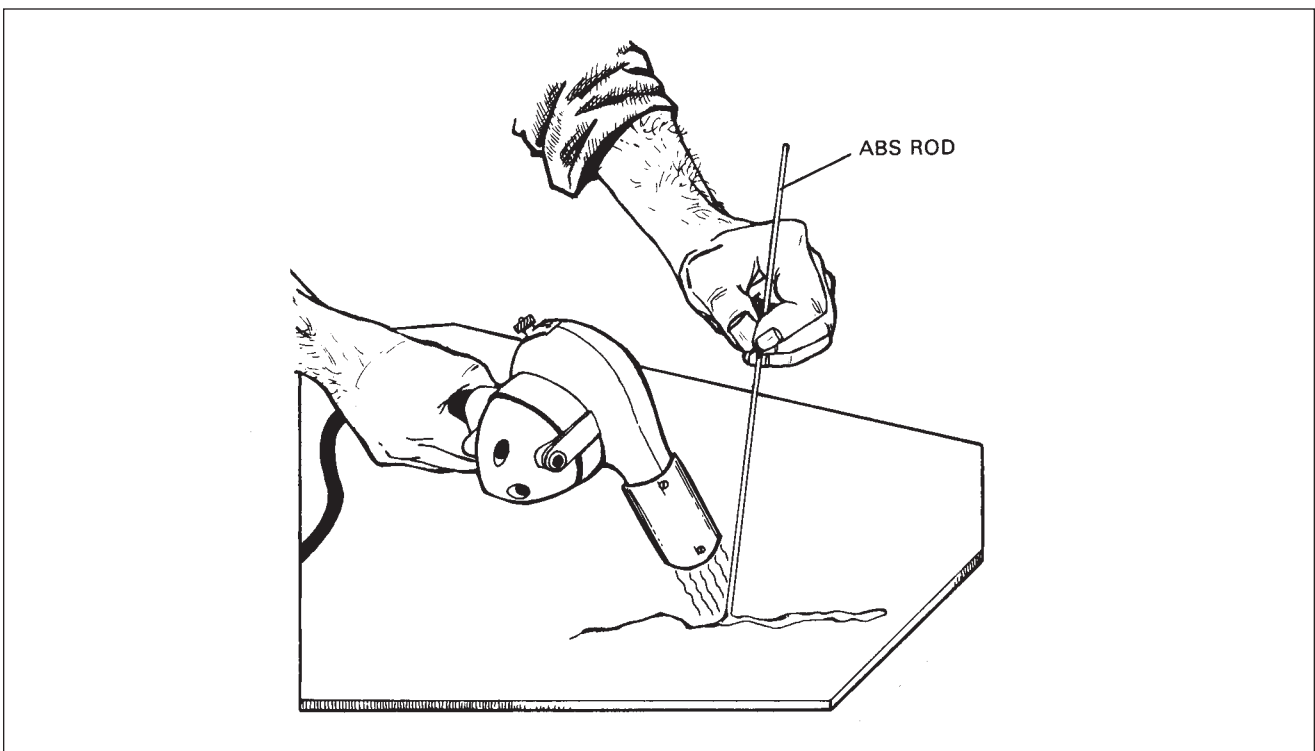

Figure 51-5. Welding Repair Method
- J. This welding method requires a hot air gun and ABS rods. To weld, the gun should be held to direct the flow of hot air into the fusion (repair) zone, heating the damaged area and rod simultaneously. The gun should be moved continuously in a fanning motion to prevent discoloration of the material. Pressure must be maintained on the rod to insure good adhesion. (Refer to Figure 51-5.)